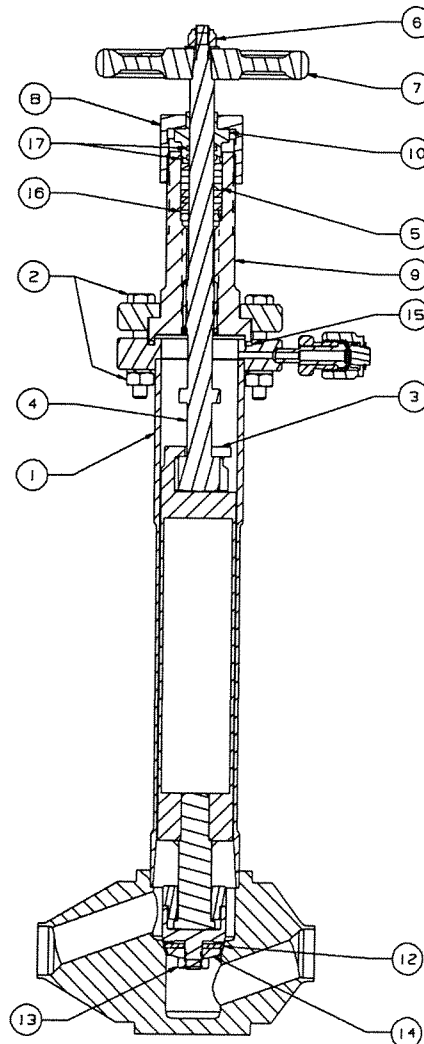

Figure 1 - Standard Manual Valve
To initially access the internal components, refer to the instructions above. To remove the packing (5) for the standard manual valve (see Fig. 1), remove the hand wheel nut (6) and pull off the hand wheel (7), then remove the packing nut (8) and rotate the stem to extract from the bottom of the bonnet (9). Remove the packing follower (10) and the packing. Take care not to scratch the stem and packing sealing surfaces.